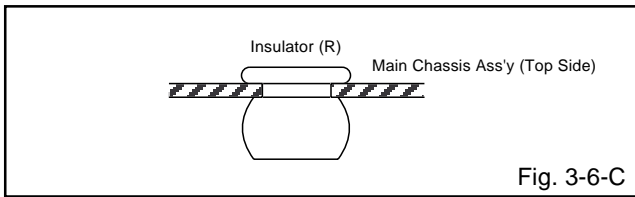

Fig. 3-6-C
## 3-6: TRAVERSE HOLDER/INSULATOR (F)/INSULATOR (R) (Refer to Fig. 3-6-A)
2. Remove the 2 Insulator (F).
3. Remove the Insulator (R).
1. In case of the Insulator (F) installation, install correctly as Fig. 3-6-B.
2. In case of the Insulator (R) installation, install correctly as Fig. 3-6-C.